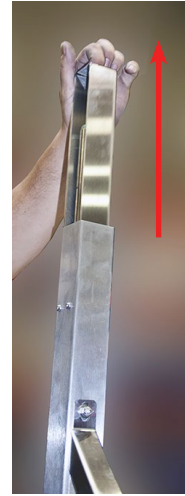

Fig. 7: Remove inner legs
1. Using the flat head screw driver, gently pry up inner leg then lift to remove (Fig. 7). Set aside for later reinsertion